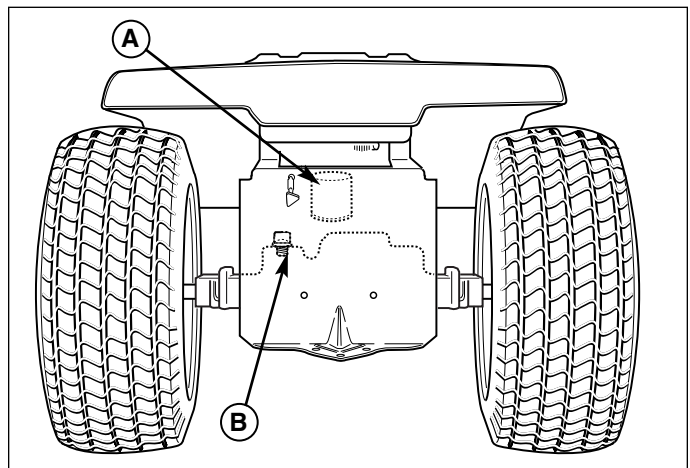

Figure 35. Hydraulic System Oil Filter
2. Remove the differential fill cap (B, Figure 35).
4. Remove and replace the hydraulic system filter (A, Figure 35). Thread the new filter onto the filter base and tighten 1/2 to 3/4 turns past finger tight.